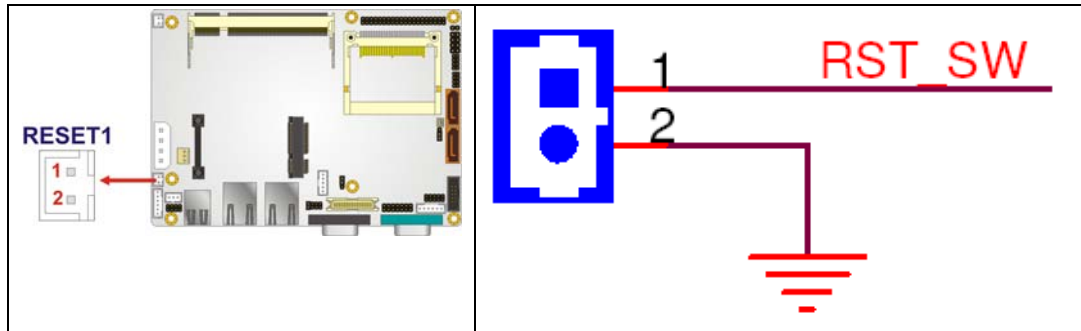

Figure 3-9: Reset Button Connector Locations
- CN Location:** See Figure 3-9